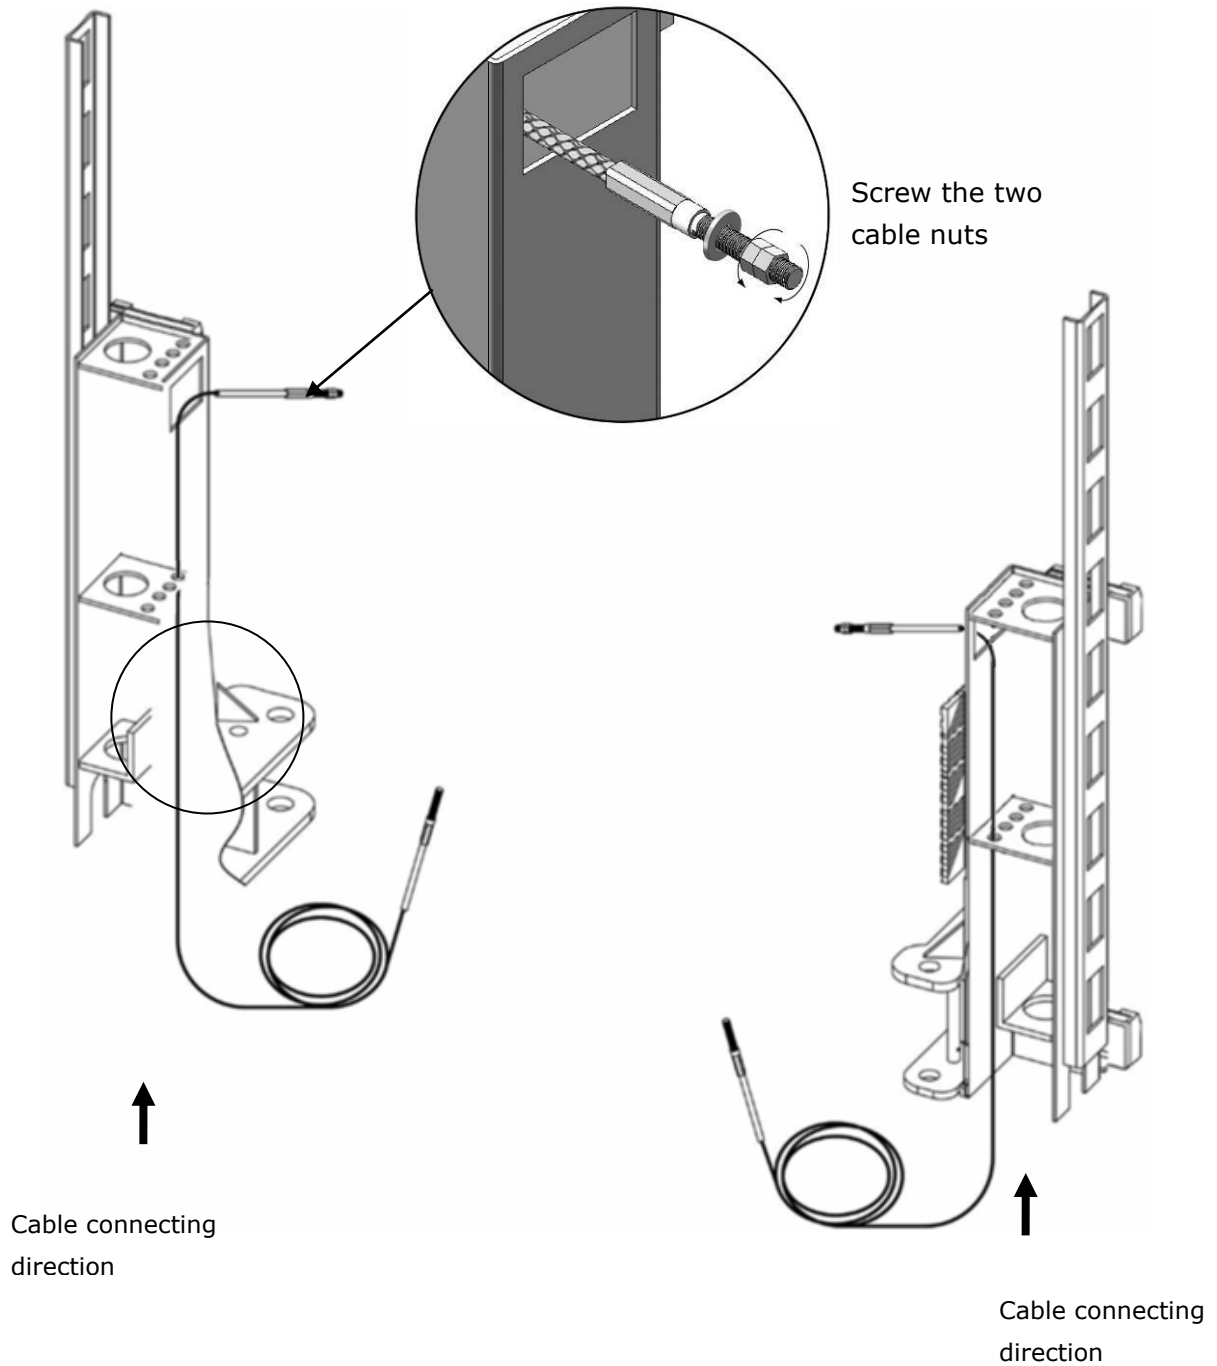

Fig. 27
1.1 Remove carriages' plastic cover, pass cable through from the bottom of the carriages and be pull through the openings of the carriages, then screw on/adjust the two cable nuts (See Fig. 27).